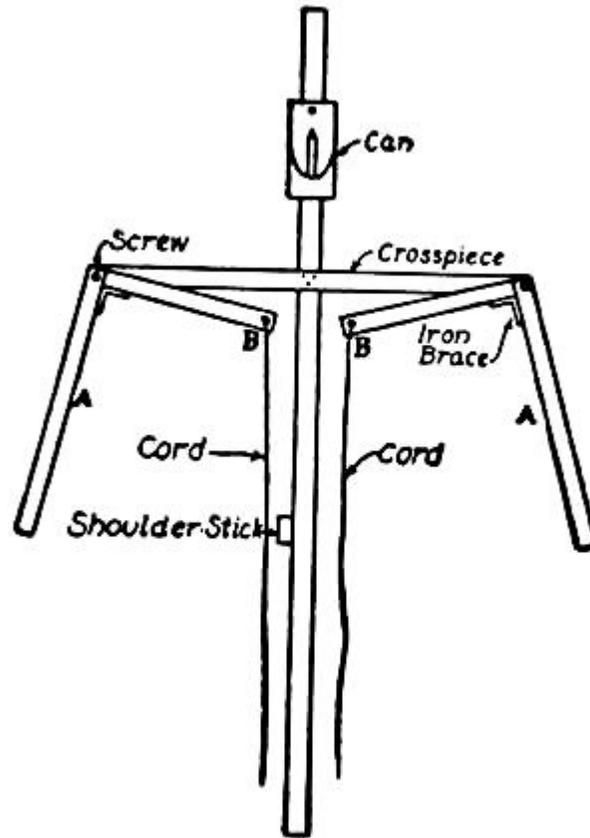
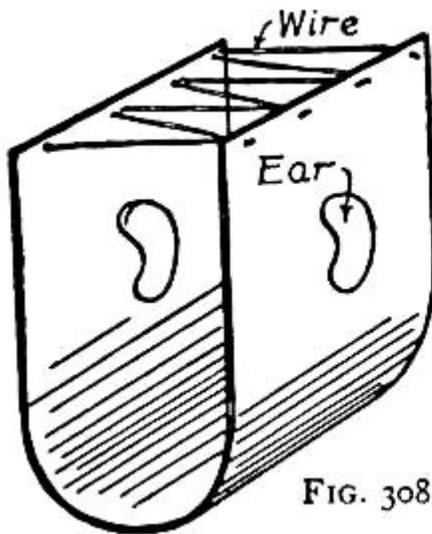

FIG. 307.—Framework of the Goblin-man.
FIG. 308.
**The Goblin-man** (Fig. 306) is easily made out of such material as you can most generally find about the house. The framework for the body of this ghostly creature is shown in Fig. 307, and consists of a pole about four feet long with the centre of an eighteen-inch crosspiece nailed across it. In order to fasten these pieces firmly together, they should be halved as shown in Fig. 267, Chapter XIX. The arms consist of two sticks (*A* and *B* in Fig. 307) fastened together at right angles with small iron braces, and screwed in place near the ends of the crosspiece, as shown in the illustration. Holes should be bored through the arm pieces in order that they may work freely on the screws. Place a small screw-eye in each arm at *B*, and attach a short string to it. A short stick should be nailed to the four-foot pole about eighteen inches from the lower end, so that the boy who carries the framework can rest it upon his shoulder.
The head of the goblin is a jack-o'-lantern made out of a piece of cardboard, bent as shown in Fig. 308, and held in this shape by means of broom-wire laced back and forth across the top. Cut a hole the shape of an ear in each side, and paste a piece of red tissue-paper over the opening. For the face, take a piece of white paper a little larger than the face is going to be, mark out eyes, nose, and mouth upon it, and cut the openings for them. Paste red tissue-paper over the openings for the eyes, and mark a large black pupil in the corner of each (Fig. 309). For the mouth, paste a piece of white tissue-paper over the opening, and mark out the teeth in black (Fig. 309). A piece of red tissue-paper should be pasted over the opening for the nose. After finishing the face, paste it on to the cardboard head. The goblin's countenance is lighted up from within, by means of a candle fastened in a baking-powder can. Cut down one side of the can with a pair of tin-shears or a can-opener, and tack it to the framework about six inches above the crosspiece, as shown in Fig. 307. This can must not be put in place, however, until the head is fastened to the framework, which is done by punching a hole in the cardboard large enough to admit the end of the pole. Get an old derby for a hat, and, after punching a few holes in the top for the heat and smoke of the candle to escape, sew it to the cardboard head. Cover the back of the head with black cloth in such a way that it may be opened to light the candle. To save the goblin-man the embarrassment of losing his head, drive a nail through the crown of the derby-hat into the end of the pole. For a neck, button a cuff around the pole between the crosspiece and head.